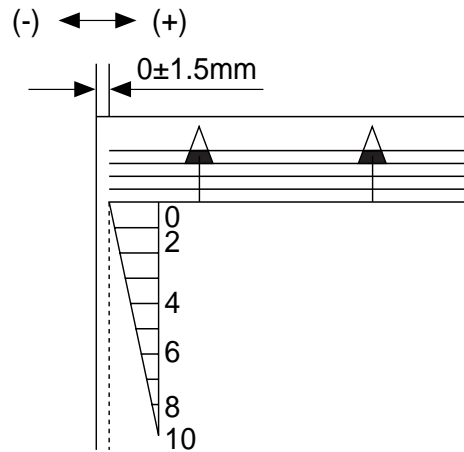

Figure 4-308
Make adjustments so that the image position is as indicated in Figure 4-308 when the Test Sheet is copied in Direct.
- CW direction: moves the paper in the direction of - in Figure 4-308
- CCW direction: moves the paper in the direction of + in Figure 4-308